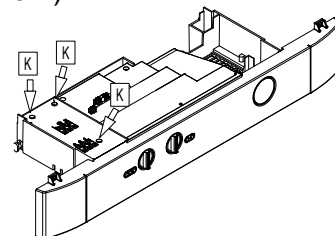

Figure 16.4
- Loosen the screws K and remove the service panel (figure 16.4).